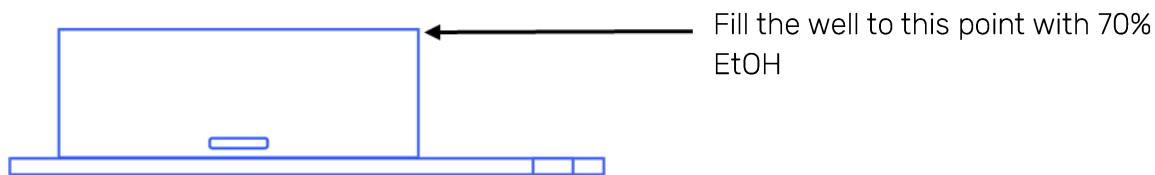

Figure 2: Side view diagram of CorePlate™ 1W showing the fill level of the well.
2. **70% EtOH Application.** Fill the Well of CorePlate™ 1W completely with 70% ethanol up to the rim of the Well Wall (Fig. 2).